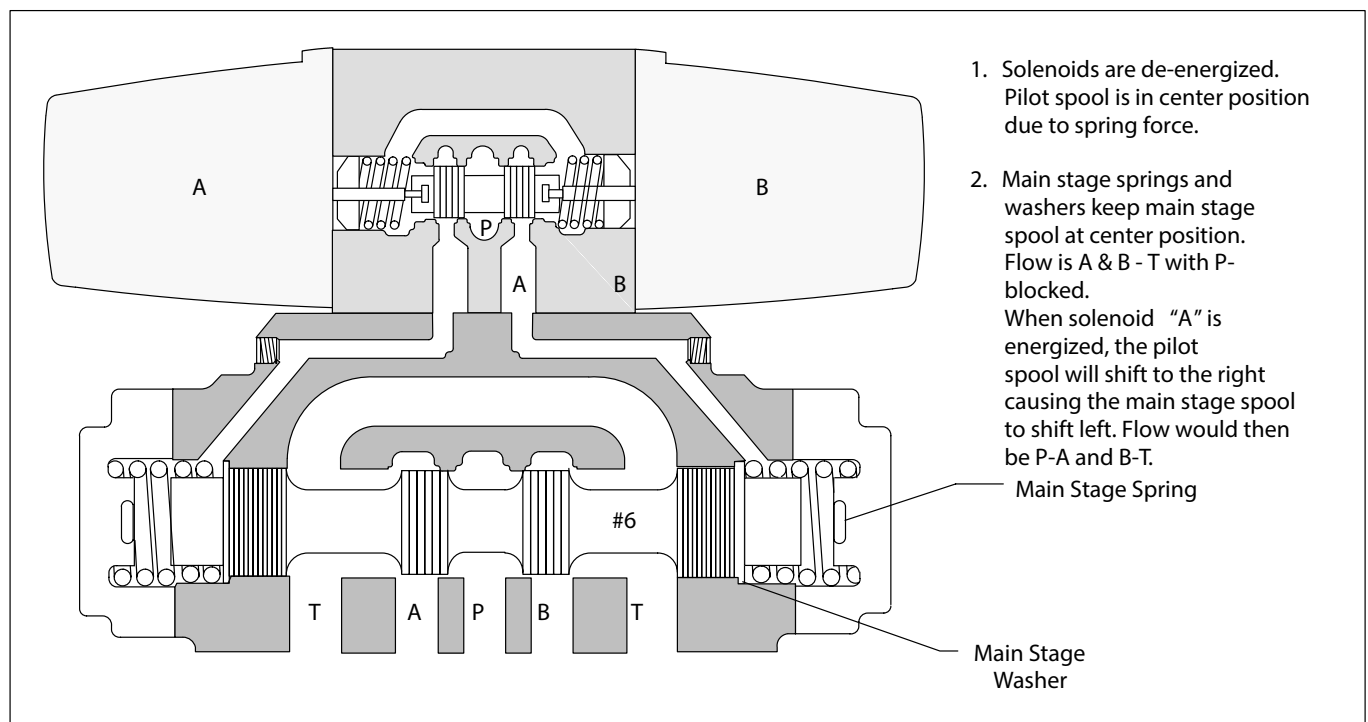

Figure 5. Spring Centered "C" Model
2. **Spring Centered** : A spring and washer arrangement is used on both ends of the main stage spool in the spring centered configuration. If control pressure is removed from a spring centered spool, the valve will go the center position due to spring force. Two configurations of a two-stage spring centered valve can be obtained, a type "B" and a type "C". If one solenoid is used on a spring centered pilot valve, the model code is identified with the letter "B". When two solenoids are used, the model code is identified with the letter "C". Figure 5 illustrates spool positioning of a two-stage spring centered "C" model (i.e. DG5S4-062C-**-51).